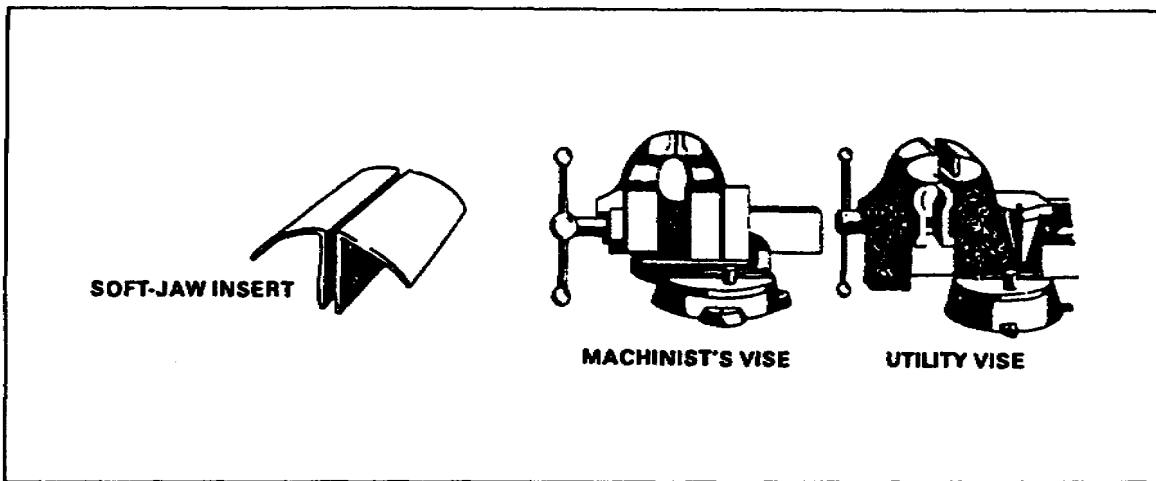

Figure 2-39. Vises
c. Vises. Vises can be fitted to the top of a workbench, and some are adapted to slide underneath the top of the workbench. Most vises used by carpenters are fitted with wood between the jaws to protect the work from scars, dents, and scratches (Figure 2-39, page 2-20).